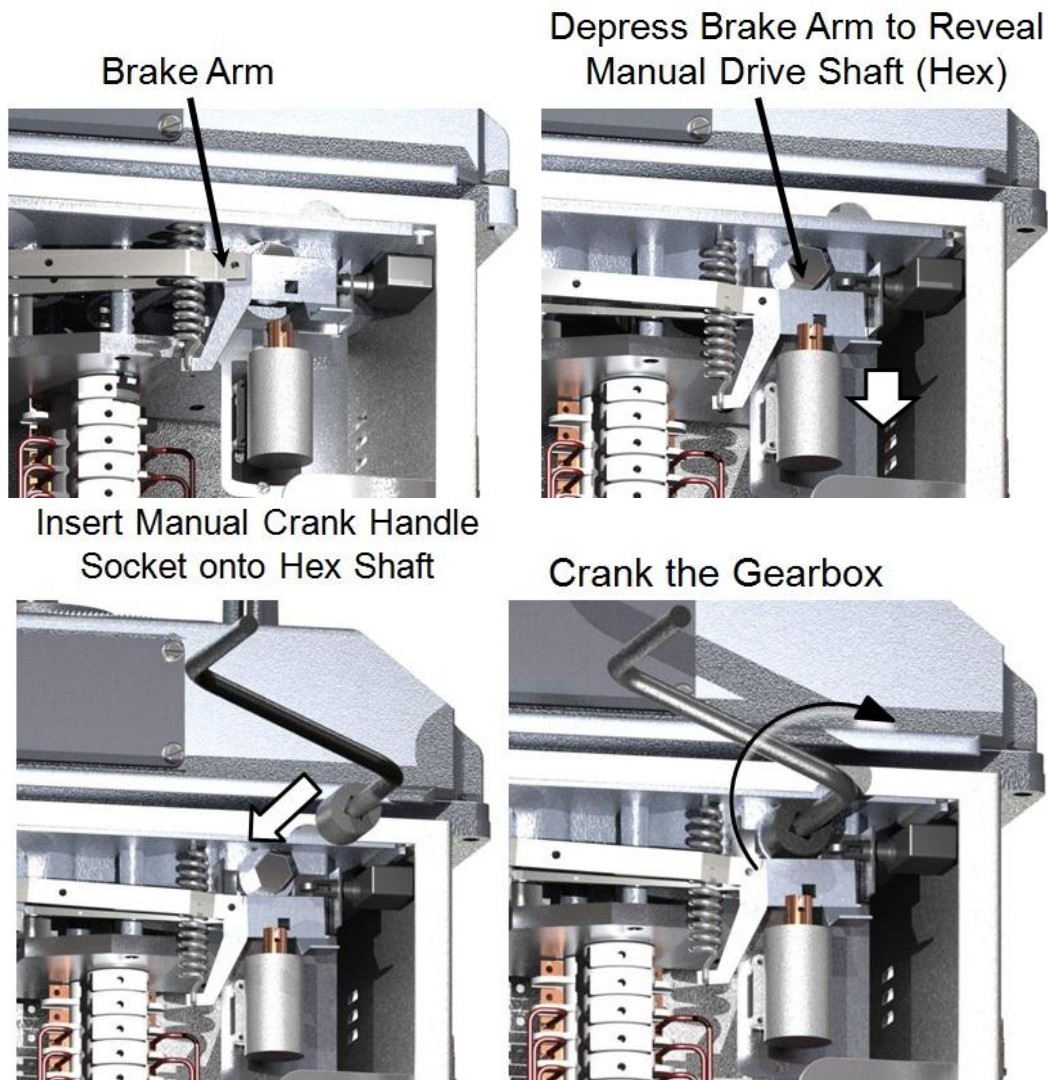

Figure 4 - Manual Operation
| Figure 4 - Manual Operation | 9 |
2. Perform all trail operations manually. Refer to Figure 4.